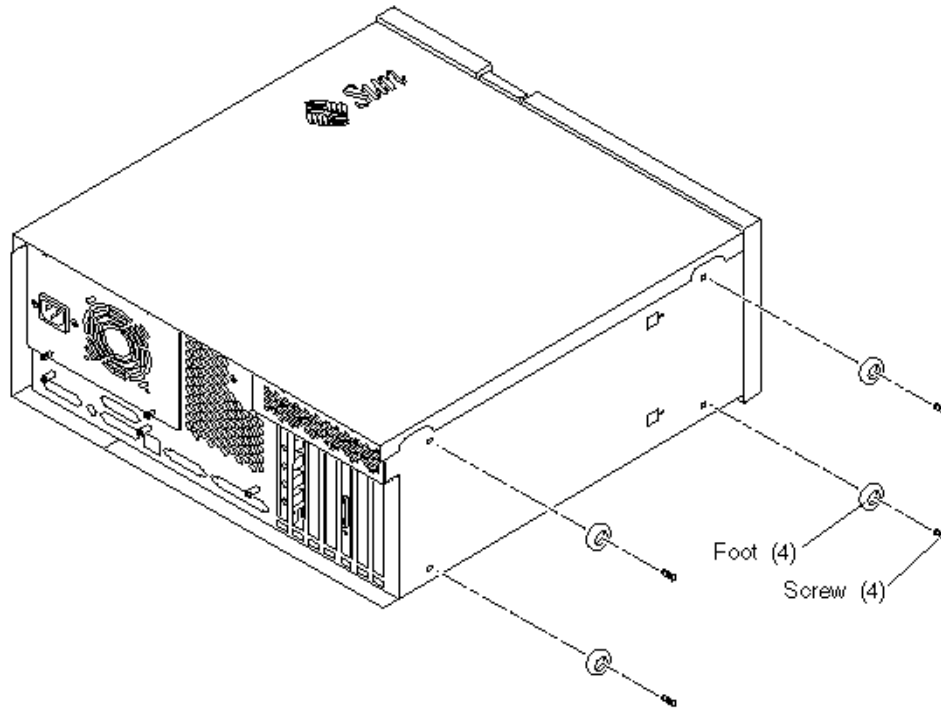

Figure 8-7 Removing and Replacing the Chassis Foot
3. **Using a number 2 Phillips-head screwdriver, loosen the screw securing the foot to the chassis (Figure 8-7).**
1. **Position the foot (Figure 8-7).**